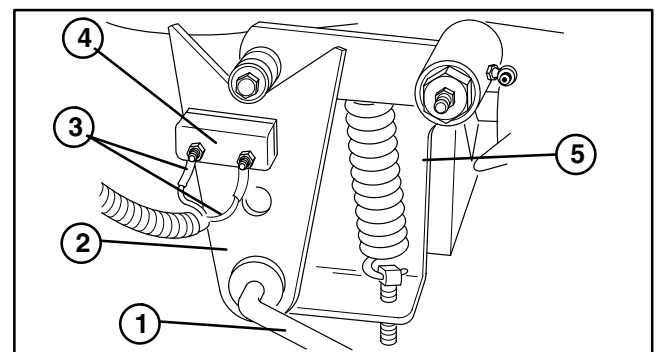

Figure 32
4. Remove cotter pin and flat washer securing the pump control rod to the pump lever. Pull control rod from the pump lever (Fig. 32).
5. Label electrical wires. Disconnect wires from the neutral switch (Fig. 32).
6. Remove cap screw and lock nut securing the pump lever to the hydrostat trunnion (Fig. 32).
7. Remove three cap screws securing the pump plate to the hydrostat while pulling the pump plate from the hydrostat (Fig. 32).
10. Clamp suction hose (8) to prevent draining the hydraulic tank.
12. Remove suction hose (8) from push on fitting (10). Allow fluid to drain from the hose into the container.
13. Remove hydraulic hoses (4 and 5) and O-rings (29) from the hydrostat. Allow fluid to drain from the hoses into the container.
15. Loosen both set screws (20) from hydrostat shaft.
16. Support hydrostat to prevent dropping during removal. Remove both hex nuts (27), lock washers (28), cap screws (6) from the hydrostat (9) and pump mount (25). Pull hydrostat from mount and machine.
17. Remove woodruff key (26) from hydrostat shaft.
8. Reinstall hose clamp (30) and suction hose (8) to push on fitting (10). Tighten hose clamp.
9. Remove clamp used to prevent draining the hydraulic tank from suction hose (8).
10. Reinstall hydraulic hoses (4 and 5) and O-rings (29) to hydrostat (9).
11. Secure pump plate to the hydrostat with three cap screws. Tighten cap screws while attaching the pump plate to the hydrostat (Fig. 32).
12. Align pump lever to the hydrostat trunnion. Secure pump lever to the hydrostat trunnion with cap screw and lock nut (Fig. 32).
13. Reconnect wires to the neutral switch (Fig. 32).
14. Insert control rod into the pump lever. Secure pump control rod to the pump lever with flat washer and cotter pin (Fig. 32).